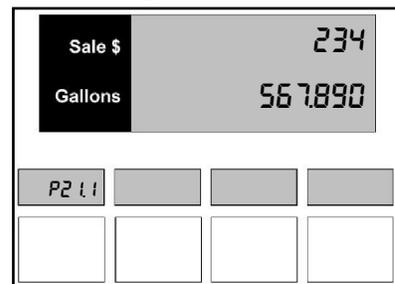

Figure 1.2 – Hose Totals
2. To read the money totals for Hose 2 and the remaining hoses, press the **Enter** button or the number button for the hose (1, 2, 3, 4). The PPV display reads **P2 1.1** for Product 2, Money Total, and Menu Code 1 as shown in *Figure 1.2*.